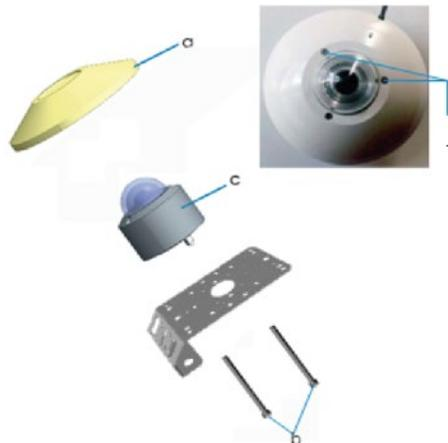

Figure 33: Pyranometer on mounting device with screws, b, inserted from below
To mount a pyranometer, refer to Figure 33 and follow the steps below:
1. If necessary, loosen the four screws (f in Figure 33).
3. Place the pyranometer (c in Figure 33) in position on the mounting plate, either horizontally or in the plane of the array.